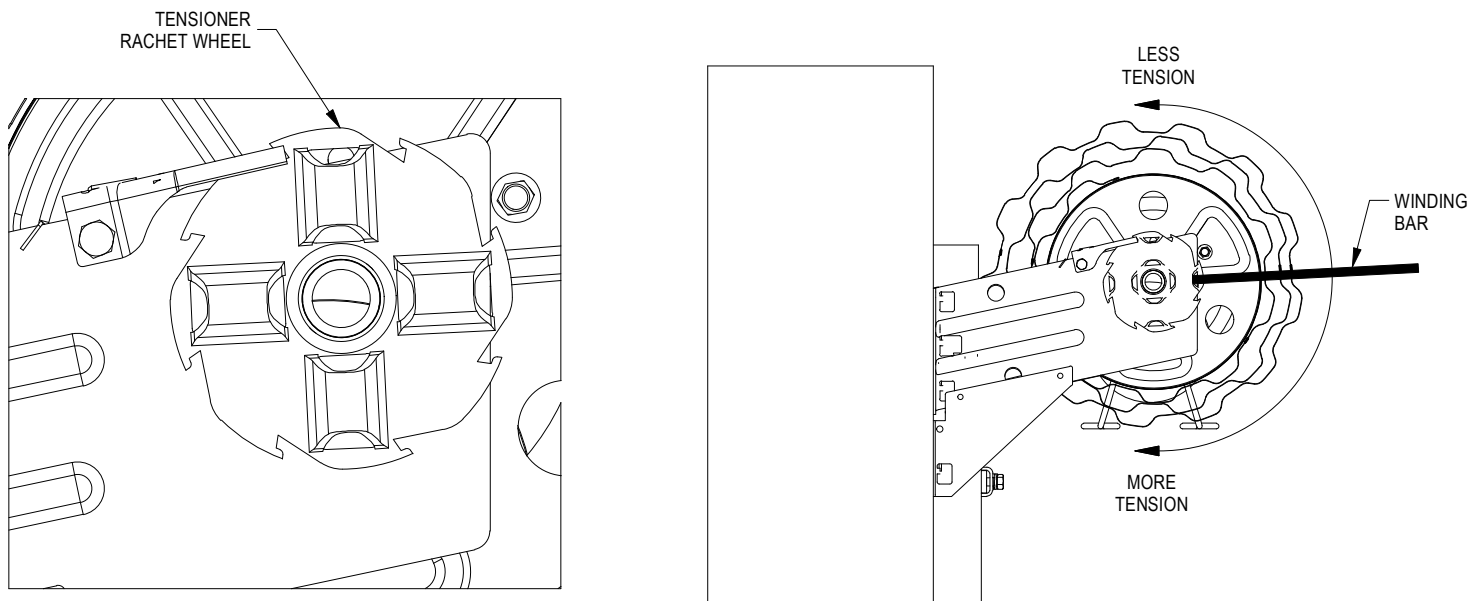

FIGURE 18:
- If door is easy to close but difficult to open, increase spring tension. **See Figure 18, on page 12.**
- If door is difficult to close but easy to open, decrease spring tension. **See Figure 18, on page 12.**
MANUAL ADJUSTMENTS OF SPRING TENSION MAY BE REQUIRED. ADJUSTMENTS ARE TO BE MADE USING A 3/8" DIAMETER WINDING BAR. WHEN MAKING ADJUSTMENTS, ENSURE TENSIONER PAWL IS FULLY ENGAGED WITH TENSIONER RATCHET WHEEL TOOTH BEFORE REMOVING WINDING BAR FROM IT. **SEE FIGURE 18** FOR VISUAL REFERENCE.